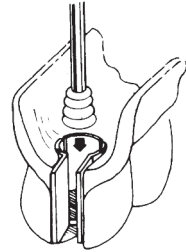

Fig. 20
3. A new coil spring is placed on the tapered shank of a straight handpiece bur which has had its cutting tip removed. The spring is inserted with its larger diameter end toward the occlusal end of the attachment. Seat the spring until it snaps into place (Fig. 20).